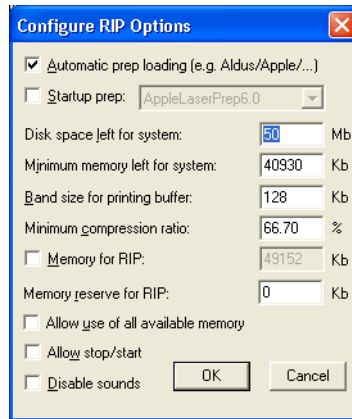

Figure 2.3 Configure RIP Options
- Click **Options** to open the Configure RIP Options dialog (Figure 2.3).